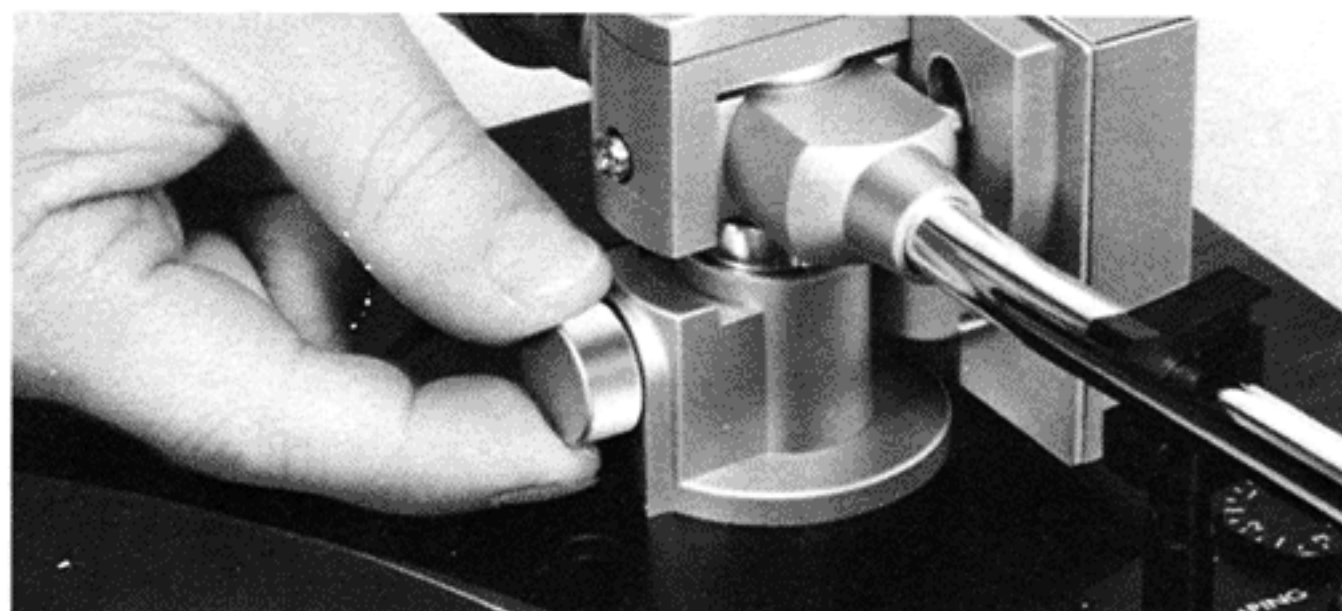

Fig. 6
4. Adjust the height by hand by loosening the height/fix knob so that the tonearm is horizontal to the record surface with the stylus tip being nearly touched to the record. Then, fix the knob firmly. (Fig. 6)